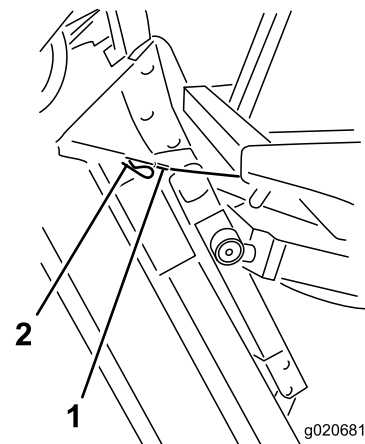

Figure 83
6. Hold the mower deck upright, fit the cable end over the pin on the mower deck lift arm, and secure it with the hairpin cotter (Figure 83).